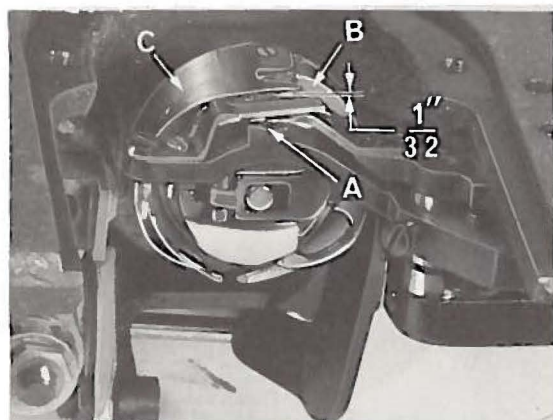

Fig. 12A
3. Assemble positioning finger and knife assembly into machine. Adjust the bobbin case holder positioning finger and knife assembly by turning the bobbin case holder until the finger recess is at the top. Place the projection (A, Fig. 12A) on the positioning finger into the bobbin case holder recess (B) and tighten the finger and knife assembly attaching screws securely, allowing $1/32$ inch clearance between the outside edge of projection and the inside edge of bobbin case recess (Fig. 12A).
- (a) Rotate handwheel in operating direction until the needle clearance cut in the deflector plate (C, Fig. 12A) on the rotating hook assembly is in line with the needle on the up stroke of the needle bar.